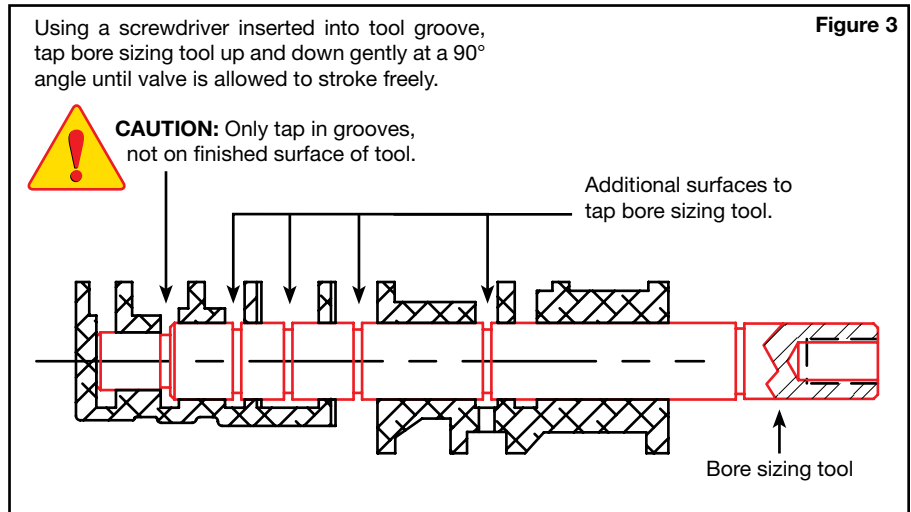

Figure 3
- If Sonnax valve and/or sleeve do not move freely, reinstall bore sizing tool and tap tool back and forth using a hammer and screwdriver inserted through the ports and into tool grooves (Figure 3). Repeat process until valve strokes freely.